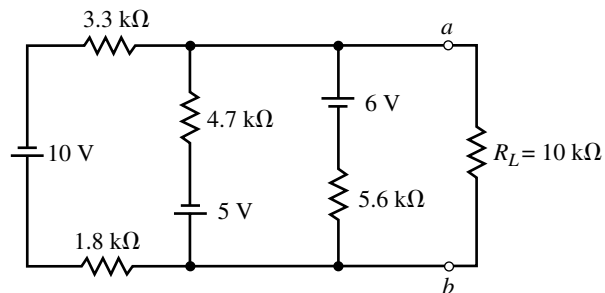

FIGURE 9-105
47. Repeat Problem 45 for the circuit of Figure 9-105.